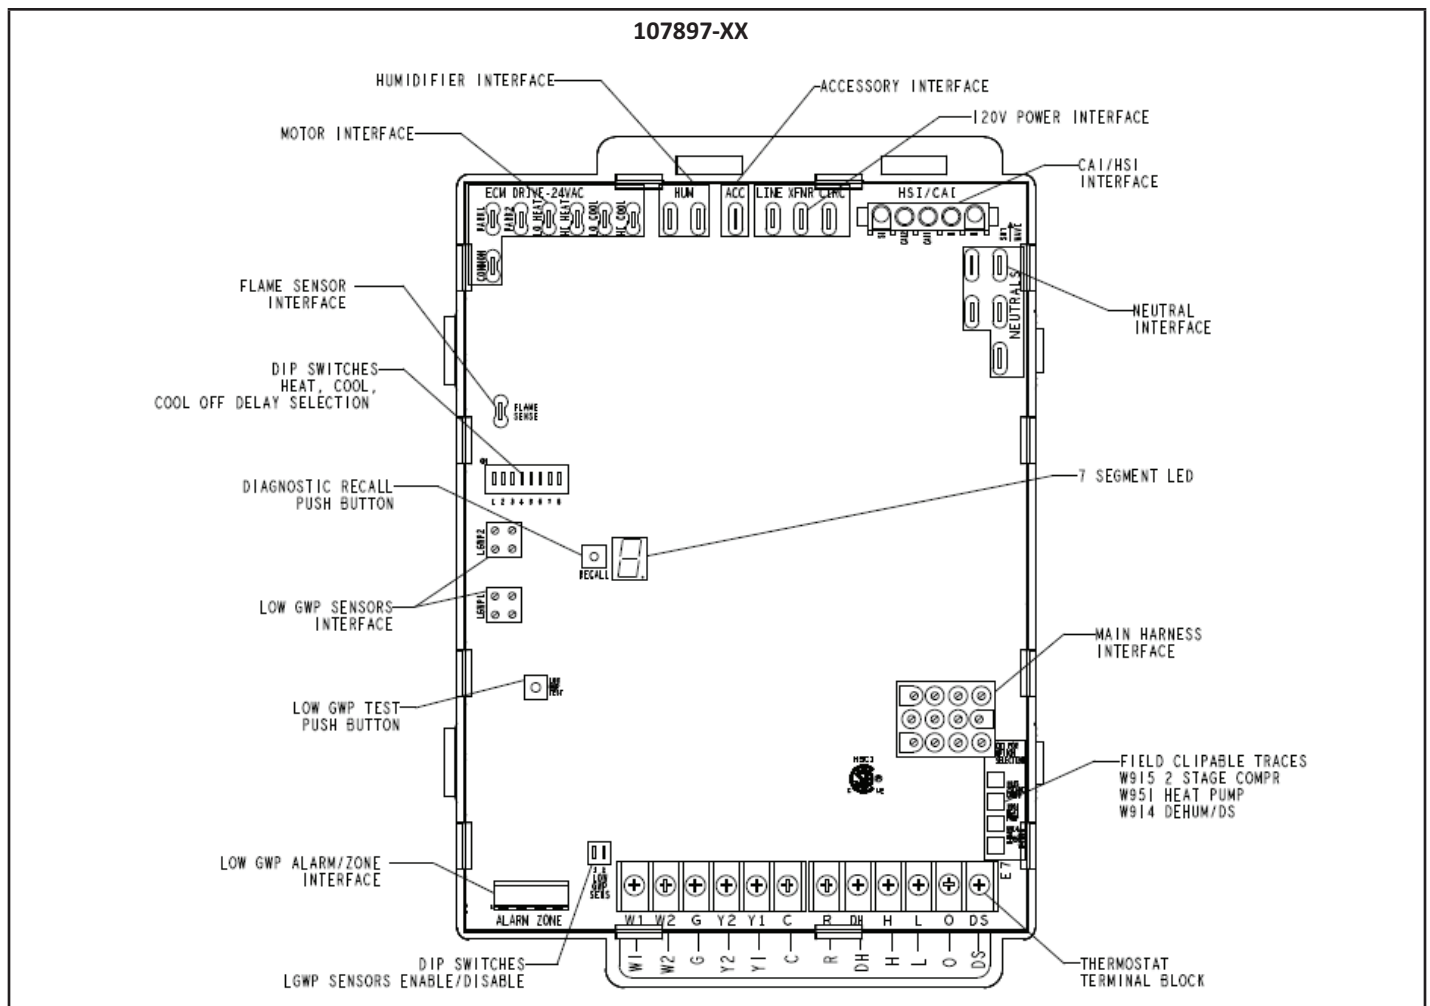

FIGURE 4
Units are equipped a two-stage, ignition control. The system consists of a ignition / blower control (FIGURE 4) with control pin designations in TABLE 1, TABLE 2, TABLE 3 and ignitor. The control and ignitor work in combination to ensure furnace ignition and ignitor durability. The control provides gas ignition, safety checks and indoor blower control with two-stage gas heating. The furnace combustion air inducer, gas valve and indoor blower are controlled in response to various system inputs such as thermostat signal, pressure and limit switch signal and flame signal. The control features a seven-segment LED display, indicating furnace status and error codes. The LED flashes in single digits. For example using TABLE 4 under LIMIT CODE, an "E" followed by "2" followed by "5" followed by "0", the limit switch circuit is open. The control also has two unpowered (dry) 1/4" contacts for a humidifier and a 120 volt accessory terminal. Both rated at (1) one amp each.